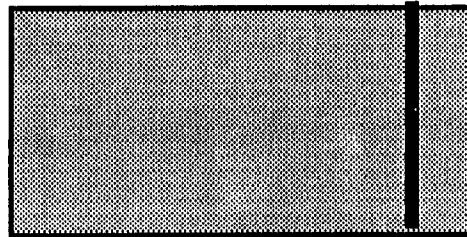

Figure 3
4. If the copy looks like Figure 3, the problem is in the document feed.